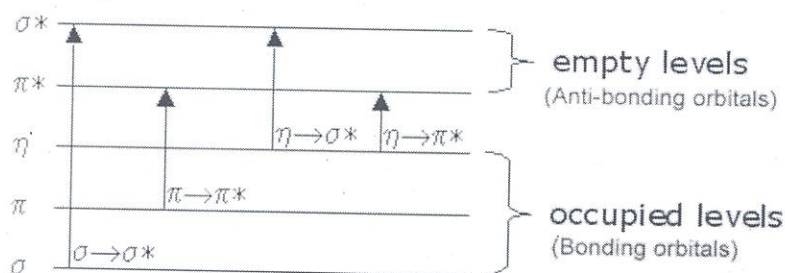

Fig. 5: Types of electronic transitions.
• Types of Electronic Transitions (Fig.5)